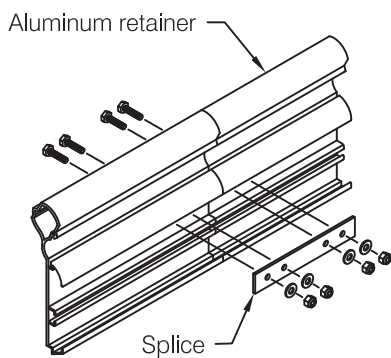

fig 6
- A minimum of 4" from end of retainer at splices to avoid interference with splice hardware (shown in **fig 6**)
**Step 9:** Refer to **fig 6** for splicing of aluminum retainer as required on longer handrail lengths. Always locate splice joints a minimum of 4" from bracket locations. For best results offset butt joint in cover, accent strip, and bumper guard from splice in aluminum retainer.